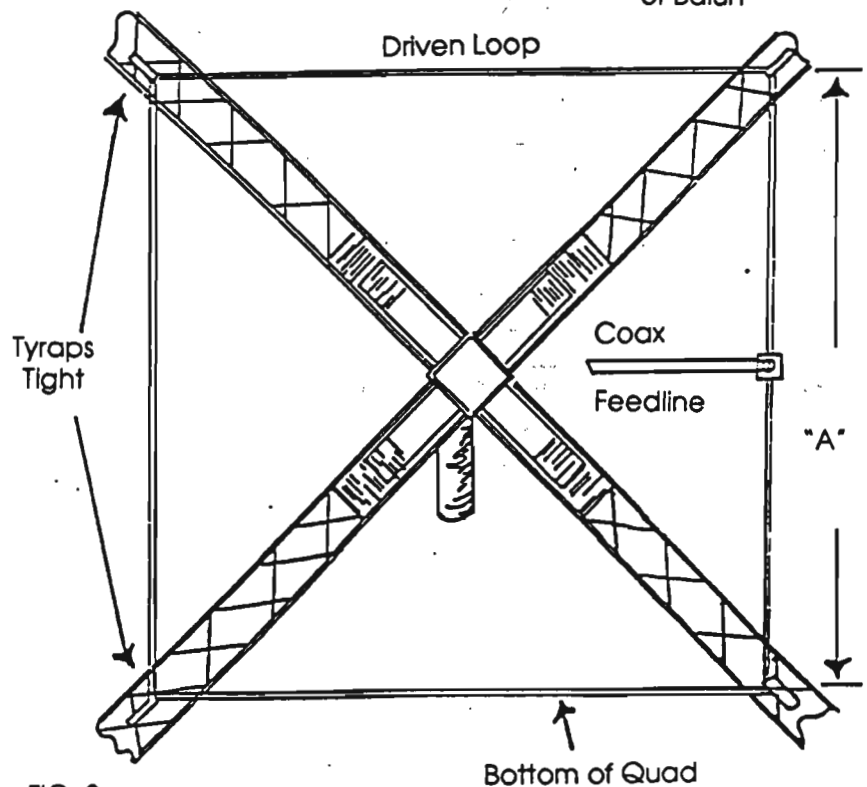

FIG. 2
2. Measure 15.5" (39.3 cm) up each of the driven blue marked arms and attach the driven wire loop to this point using a tyrap, **DO NOT TIGHTEN**, just insert the tail of the tyrap into the lock sufficient for it to hold. Fig. 2.
3. Repeat this with each of the driven arms until you have the wire loop attached to all four arms. Make sure the coax connector is in the vertical plane as in fig. 2. Now bring the wire loop into reasonable square by carefully tightening each of the tyraps a bit at a time. The driven element is now ready for the attachment separate from the one used for the other bands.